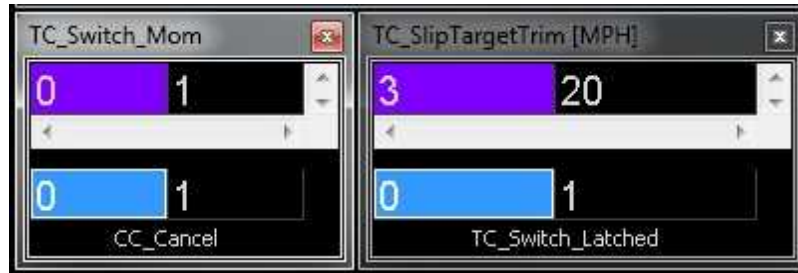

Figure 2: Traction Control Setup
If using the Cancel button as a traction control switch, the latching Cancel button changes the TC_SlipTargetTrim 1-axis lookup table, as shown in figure 2. Simultaneously, the low fuel light on the dash will blink to inform the driver the status of the programmable AEM traction control. Normally this table is used with a multiple position switch. However, because the Cancel button is either OFF (0) or ON (1), only the first two cells of the table are used. Two possible traction scenarios, for example, could be ON/OFF or aggressive/nonaggressive. To use this feature, it must be enabled in Infinity Tuner: Wizard | Setup wizard | Traction Control | Traction Control Enable.